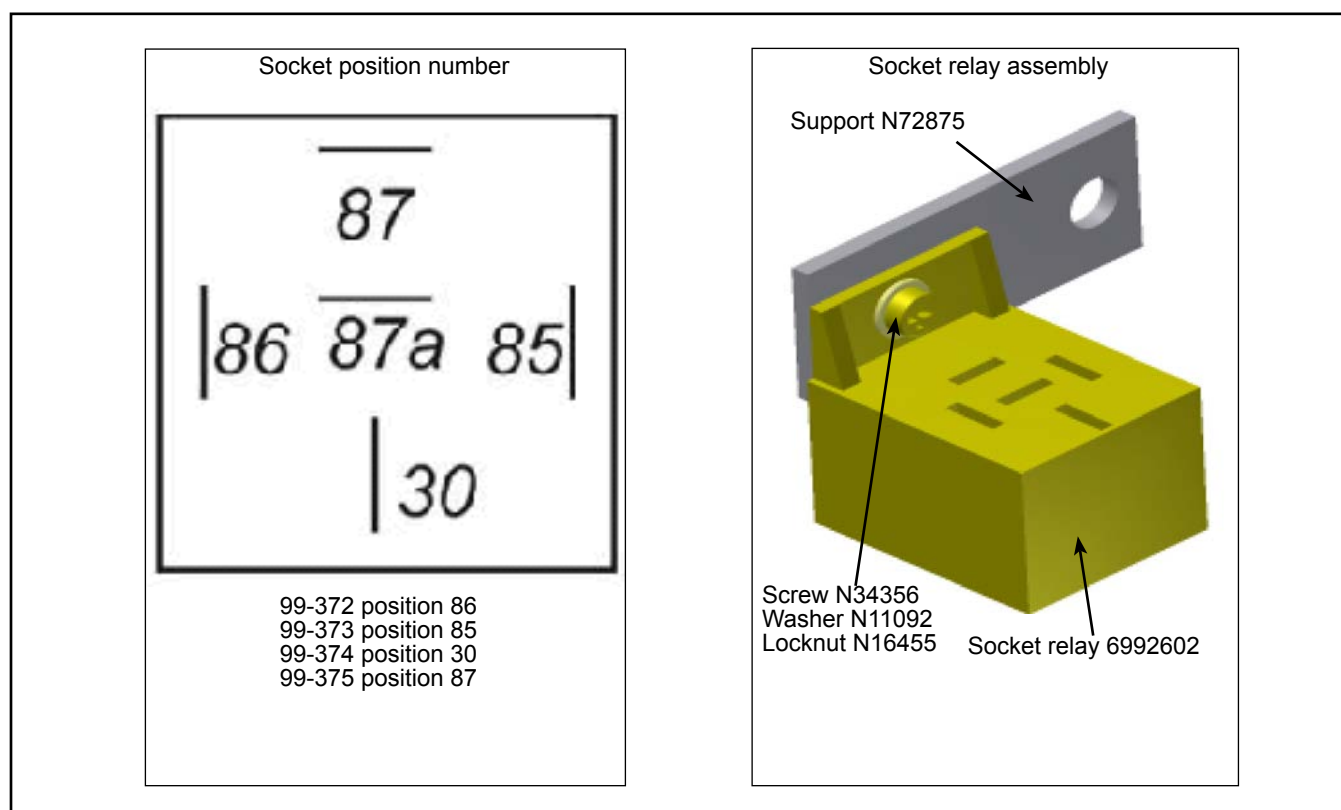

Figure 1 - Socket Relay Wire Position and Parts Description
- 1.3. Assemble the socket relay 6992602 on support N72875 using screw N34356, washer N11092 and locknut N16455. See Figure 1.
- 1.4. Connect wire **99-372/RED**, **99-373/BLK**, **99-374/RED** and **99-375/RED** in the socket relay 6992602. See Figure 1 for wire position.